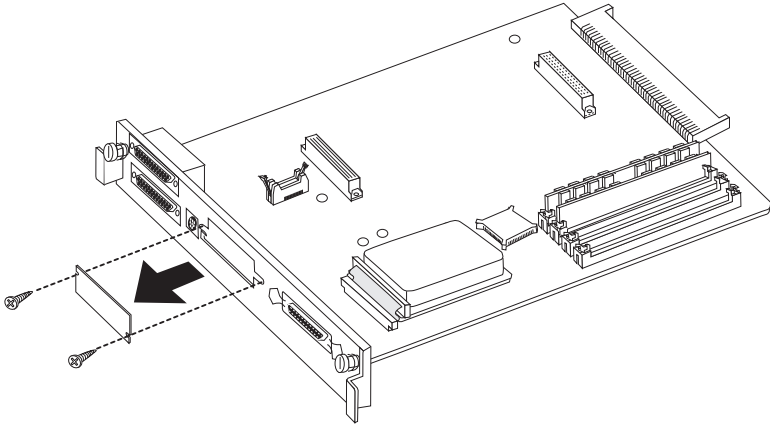

Fig. 8.17 Remove the Optional I/O Plate
2. Using a Phillips screwdriver, remove the two screws from the blank optional I/O plate, and then remove the plate from the interface panel and set it aside (fig. 8.17).